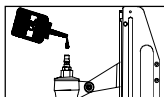

Fig. 1
1. Add a few drops of UNOCAL RX22 or 3-in-1 oil into the air inlet. (See Fig. 1)